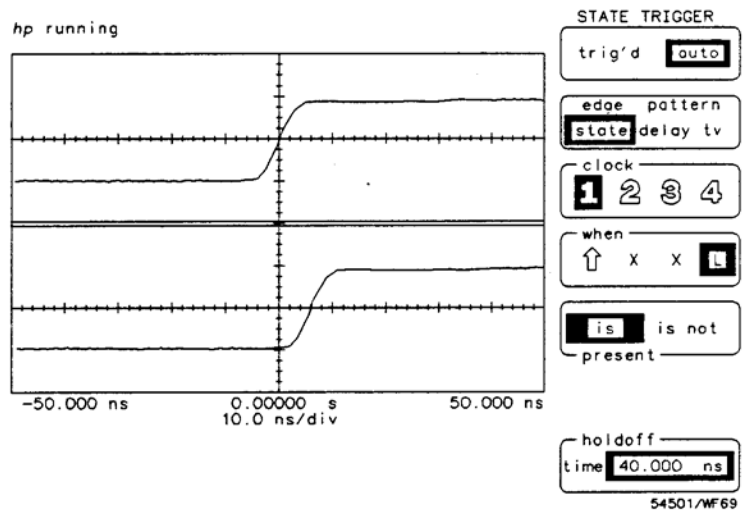

Figure 6-11. Channel 1 Clock XXL State
- Press the when key until **present** is selected (see Figure 6-11).